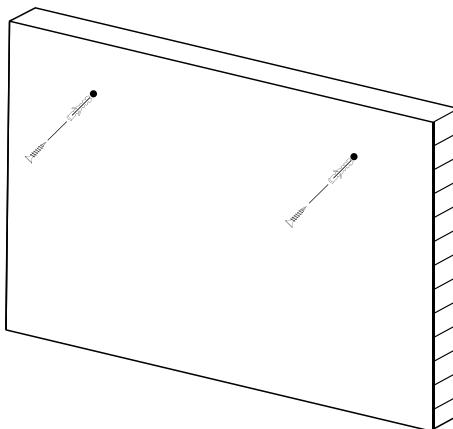
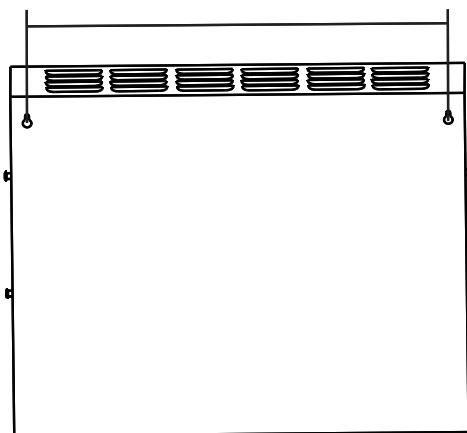

Figure 1
Figure 2
1. Drill the holes ( $\varnothing 7\text{mm}$ ) in the wall according to Figure 1 and Figure 2. Distance between the holes should be 586mm.
3. Offer the appliance up into position, the 2 keyhole slots (see Figure 2) at the back of the suite will sit over the 2 screws protruding from the wall. Ensure the fire is level.